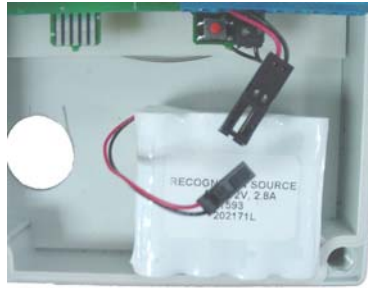

Figure 6-4 – Removing the Used Battery Pack
- 6.4.2 Locate the used Battery Pack (Figure 6-4), disconnect the used Battery Pack, and remove the used Battery Pack from its Velcro Strips.